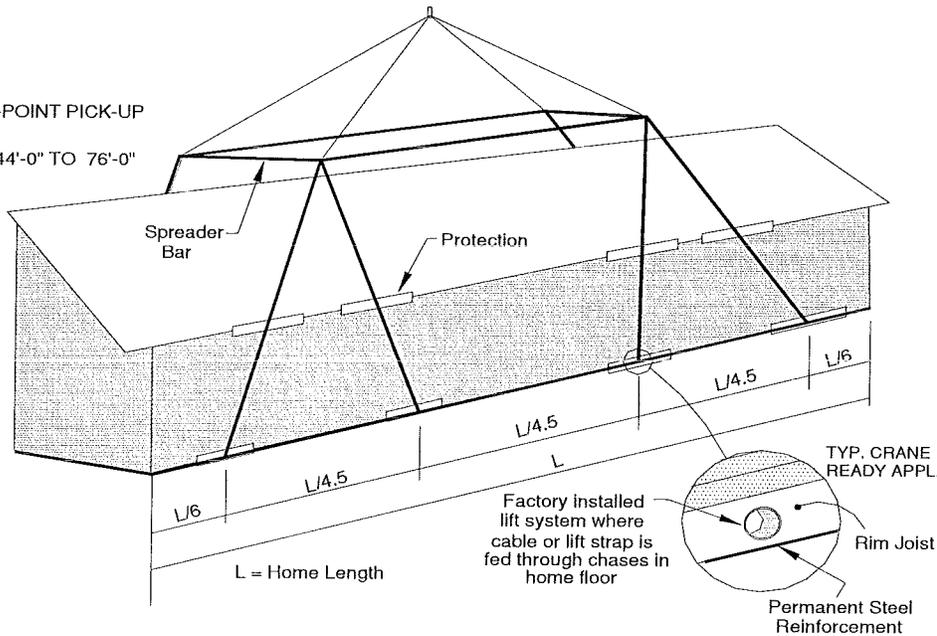

Figure 8 - 4 Point Pick-up
1. Removal of small sections of sill plate may facilitate removal of straps or lifting cables as each home is set. Location and number of cuts will depend on position and number of straps used in lifting the home sections. Reinstall sill plate after straps are free. (If perimeter joists are drilled for cables as described in Figure 8, removal of plate sections is not applicable.)
This procedure is not necessary with "Crane-Ready" floor system. (see details on Figure 8)